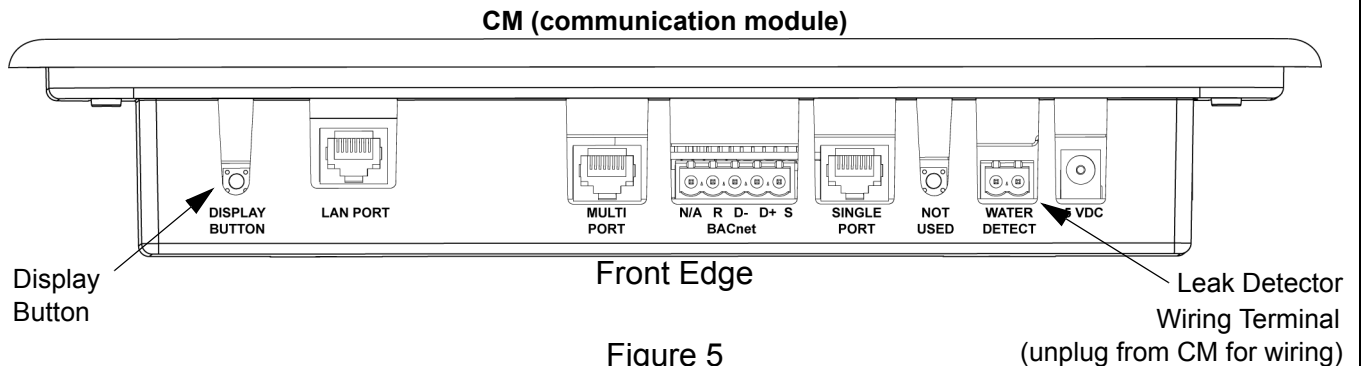

Figure 5
This section provides instructions for connecting the Leak Detector to the iCOMM™ system's CM (communication module). The Leak Detector comes with a 25 foot length of 18 gauge two conductor (18/2) SJ cord - see Figure 5. Operation is based on continuity; a water level of approximately 1/4" will activate the Leak Detector.
- 5 Split the end of the SJ cord and strip 1/4" of insulation from the two wires and connect them to the "WATER DETECT" wiring terminal on the CM - see Figure 5. Unplug the "WATER DETECT" wiring terminal from the CM when making connections and tighten terminal screws securely.
If the Leak Detector is activated by rising water the CM and Alarm Box (if so equipped - see page 21) will sound an audible and visual alarm. The alarms can be silenced/disabled by pressing the Display Button on the CM several times - see Figure 5. The Leak Detector must dry out completely before the alarm condition can be cleared. The Leak Detector will air dry over time or can be dried out with compressed air or a heat gun.